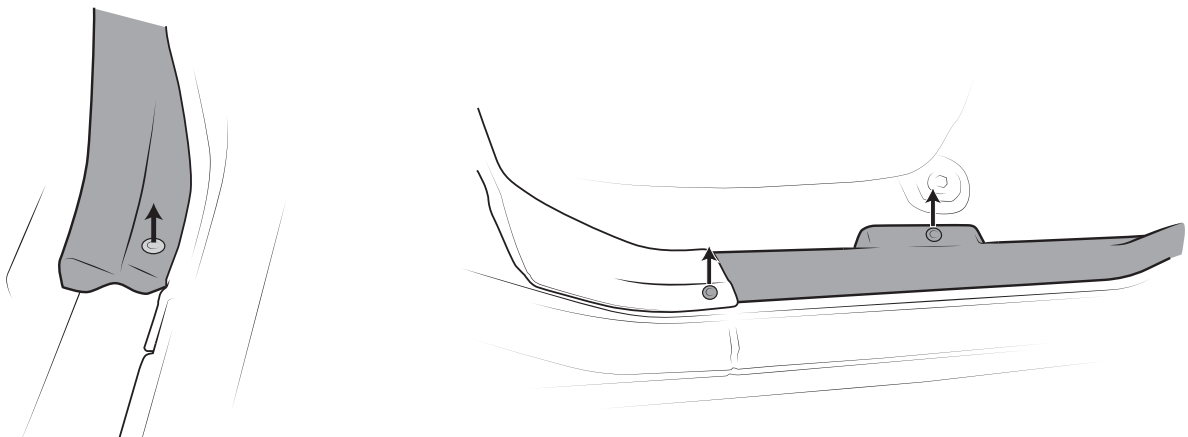

Figure 2— Left: Rear, Right: Front
6. Remove the kick panel Christmas tree from the front (2x) and backside (1x) of the B-pillar on the passenger side (fig. 2).